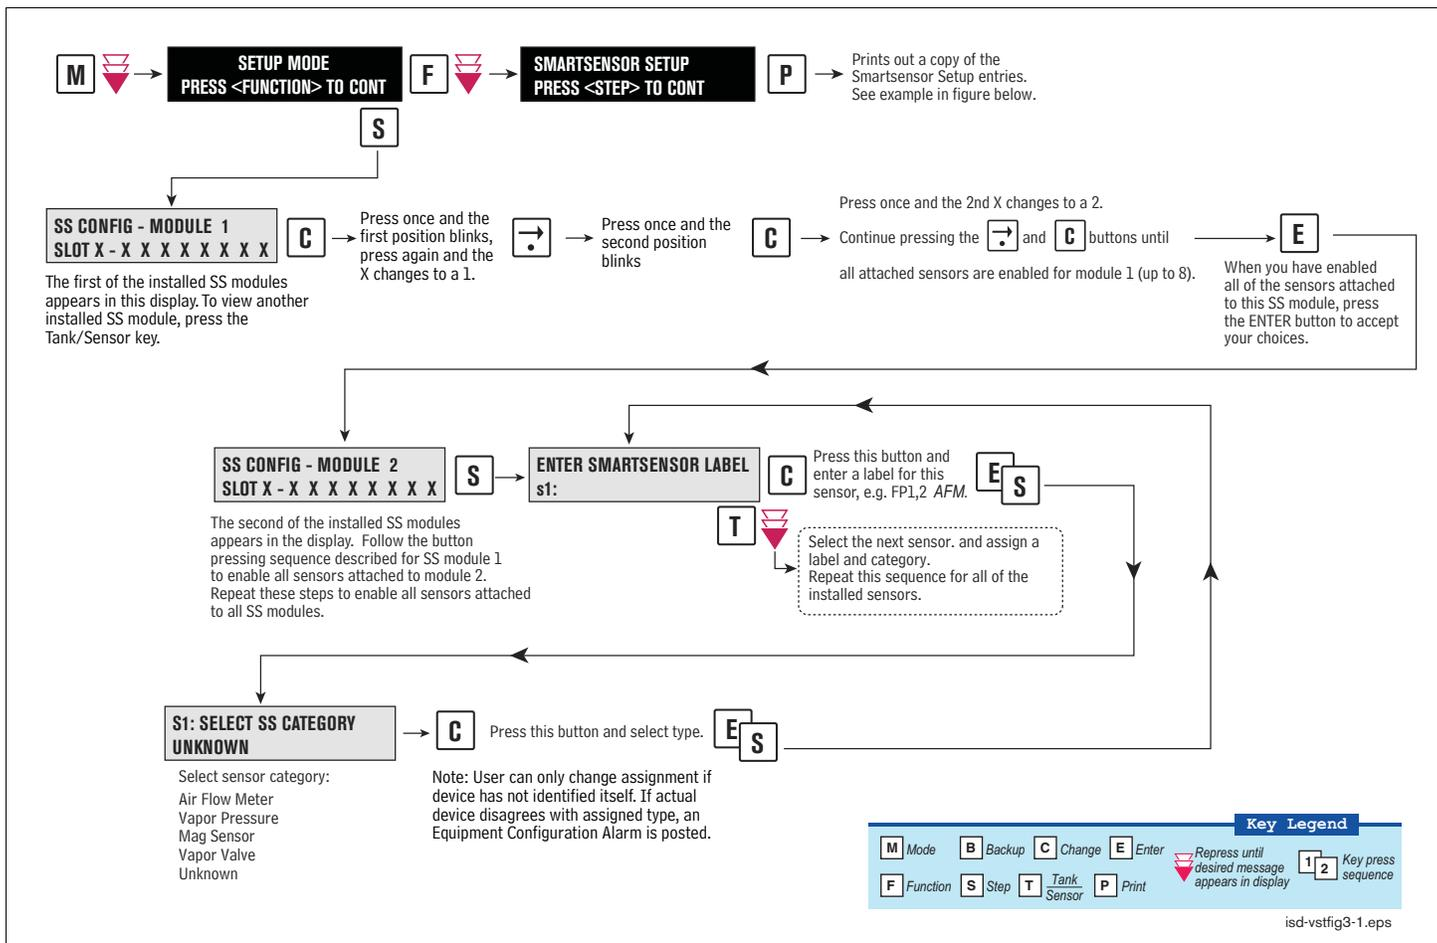
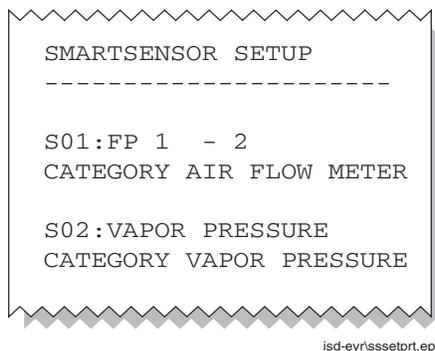

Figure 5. Smart Sensor Setup
Figure 6. Smart Sensor Setup Printout Example
- Smart Sensor Setup - All ISD site (Figure 5)
The Smart Sensor Interface Module is installed in the Intrinsically-Safe bay of the TLS console. This module monitors Air Flow Meters, ATM, Vapor Valve and the Vapor Pressure Sensor. Figure 5 diagrams the Smart Sensor setup procedure. Figure 6 shows a printout of the Smart Sensor setup.